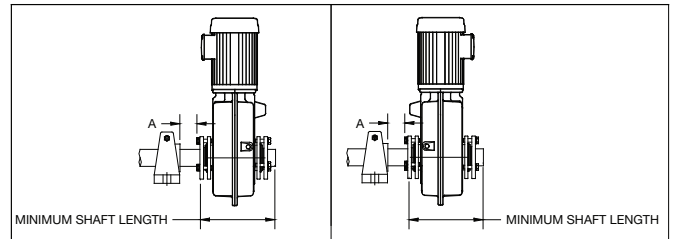

Figure 8 - Minimum Recommended Dimensions
1. One bushing assembly is required to mount the reducer on the driven shaft. An assembly consists of two tapered bushings, bushing screws and washers, two bushing backup plates and retaining rings, and necessary shaft key or keys. The driven shaft must extend through the full length of the reducer. If the driven shaft does not extend through the reducer do not use the standard tapered bushings; instead use the short shaft bushings as described in the Short Shaft Bushings section that follows. The minimum shaft length, as measured from the end of the shaft to the outer edge of the bushing flange (see Figure 8), is given in Table 6.
1. One bushing assembly is required to mount the reducer on the driven shaft. An assembly consists of one long tapered bushing, one short tapered bushing, one tapered bushing wedge, bushing screws and washers, two bushing backup plates and two retaining rings, and necessary shaft key or keys. The driven shaft does not need to extend through the reducer for the short shaft bushing to operate properly. The minimum shaft length, as measured from the end of the shaft to the outer edge of the bushing flange (see Figure 8), is given in Table 6.
2. The long bushing is designed to be installed from the side of the reducer opposite the driven equipment as shown in Figure 8. The long bushing when properly installed is designed to capture the end of the customer shaft that does not extend through the reducer. Normally the reducer would be mounted such that the input shaft extends from the side of the reducer opposite the driven equipment however the reducer design allows installation of the reducer to be mounted in the opposite direction.